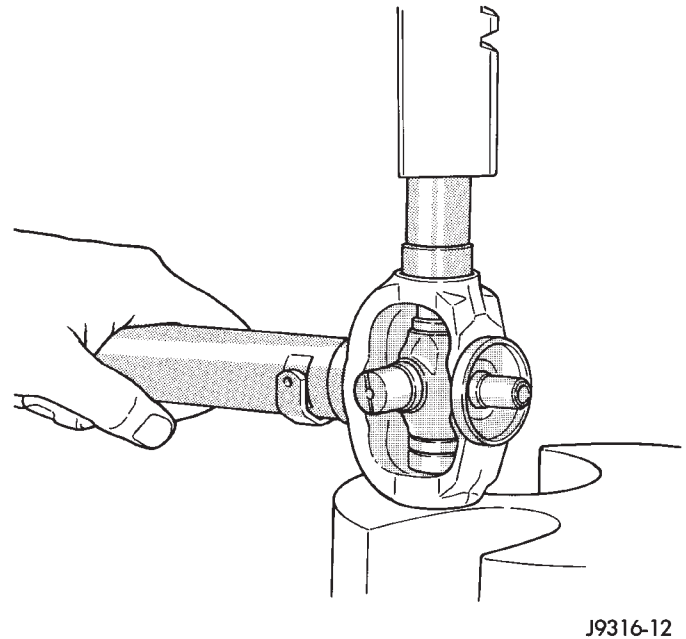

Fig. 30 Press In Bearing Assembly
(4) Flip the tube yoke and bearing assembly installation on the opposite trunnion. Install a snap ring (Fig. 30).